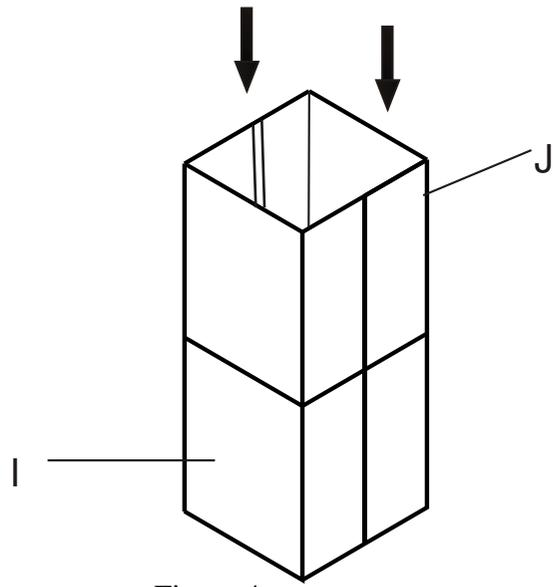

Figure 4
- 4- Pass external chimney (J) over internal chimney (I) (Abb.4).